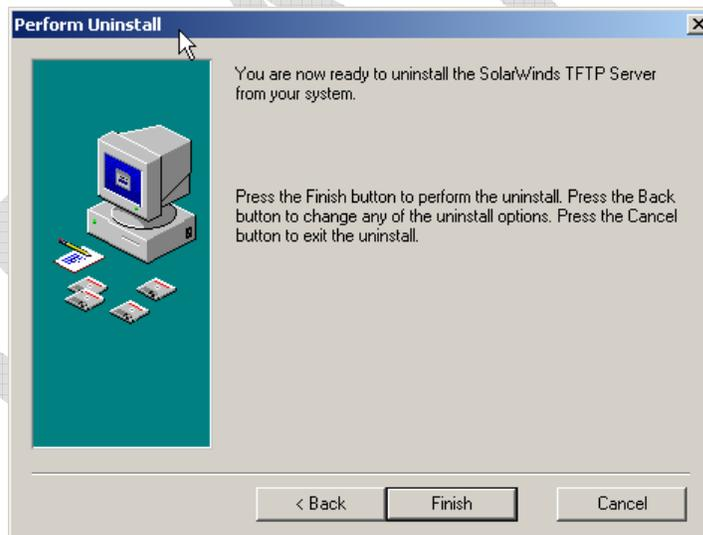

Figure C-3: Perform Uninstall Window
3. Select **Finish** (Figure C-3). Close out of the *Add or Remove Programs* window and the *Control Panel* Window.